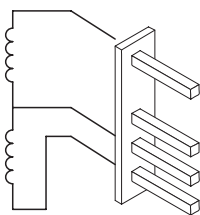

Figure 9.4
- 3 Measure the electrical resistance between the connector pins of the on-off operators as illustrated in Figure 9.4.